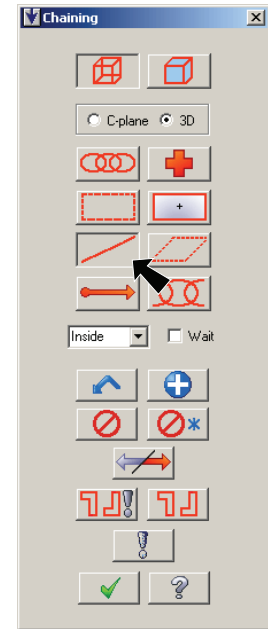

Fig. 27
Step 9. Click the Single button  in the Chaining dialog box, **Fig. 27**.
Step 11. Click OK  in the Chain dialog box, **Fig. 27**.